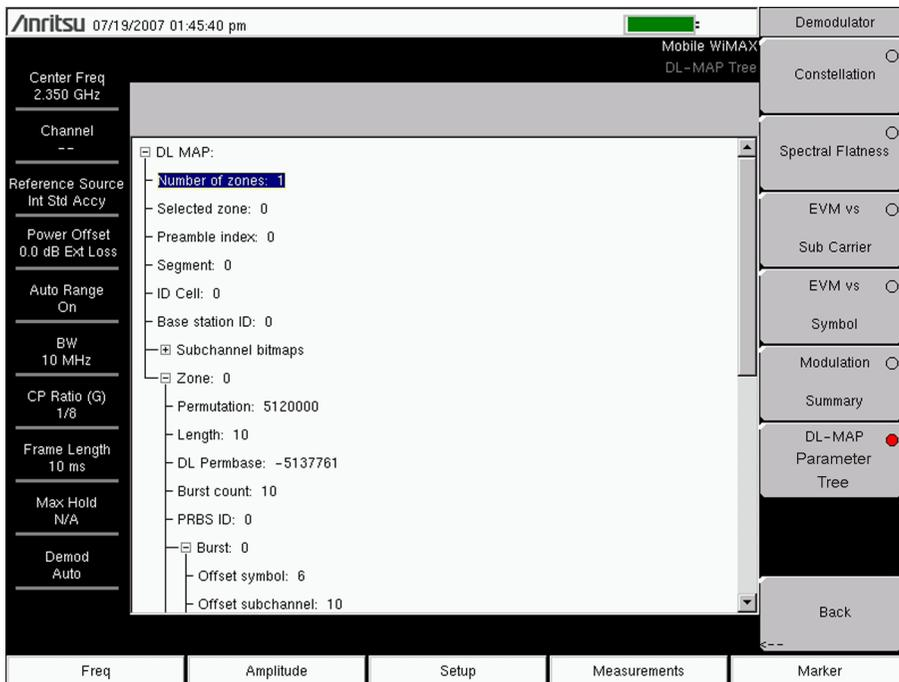

Figure 3-11. Mobile WiMAX Demodulator DL-MAP Parameter Tree Measurement
2. Use the **Up/Down** and **Left/Right** arrow keys to close or to open subordinate lists within the map. The sample image in Figure 3-11 may differ from any image on your instrument.